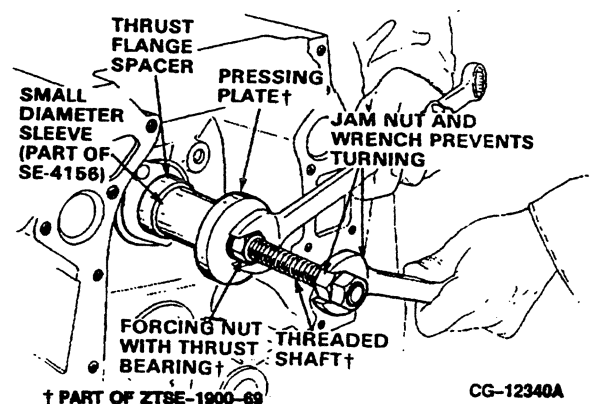

Figure 4.19. Installing Thrust Flange Spacer
2. Install thrust flange spacer against thrust flange on camshaft using the sleeve (part of SE-4156) in conjunction with ZTSE-1900-69 “Damper/Crank/Cam Gear Installer”. Refer to Figure 4.19.